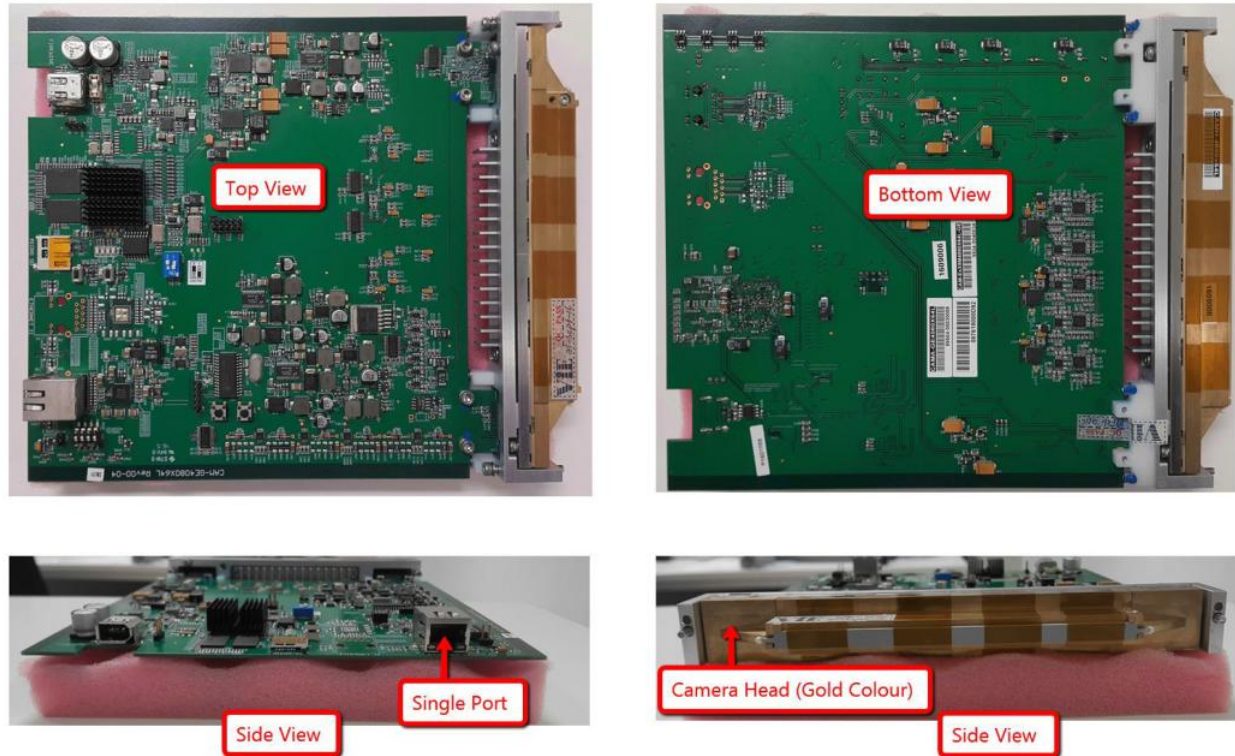
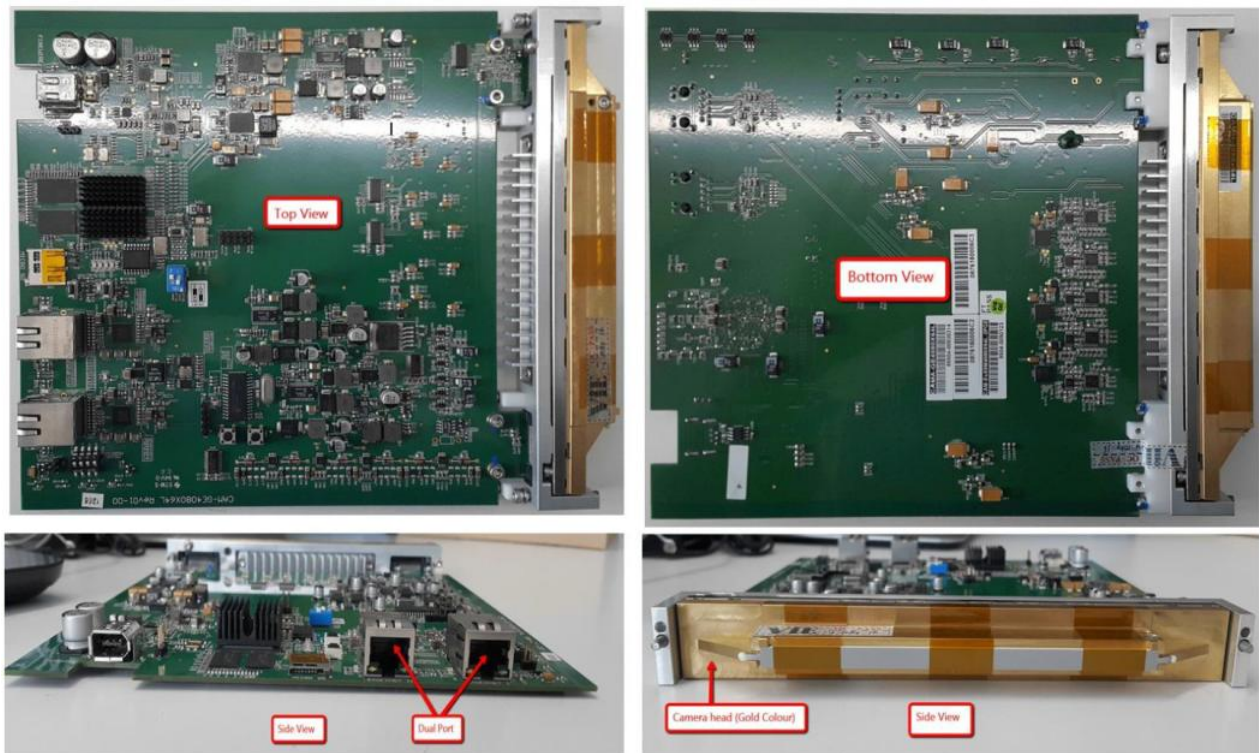

Figure 1 3G Camera (Single Port)
Figure 2 3G Camera (Dual Port)
1. May refer to Figure 1 & Figure 2 for 3G Camera Type.